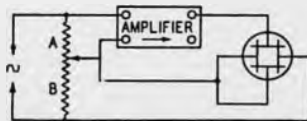

Fig. 7
Tests on the fidelity of audio amplifiers are easily made. Several methods are possible, of which that shown in Figure 7 is the simplest. An audio potential, preferably variable over the whole audio range, is applied to a potentiometer as shown. A portion is applied to the amplifier under test and the rest to the other pair of plates. A calibration line is first obtained by setting the slide so that  $a=b$  with the amplifier removed (see dotted line). The slope of this
2. What type of a.v.c. tube circuit? In addition to the two triode circuits described in the May a.v.c. article\* there is also the screen-grid tube a.v.c. and others shown herewith, Figures 7, 8, 9.
Fig. 7. A limited-range system easily added to existing receivers. If the tube to be controlled is a '24 and the detector is a '27 the voltages will be about as shown and the resistors will be about as follows:  $R_p$ —250,000 ohms,  $R_1$ —1 meg.,  $R_2$  and  $R_3$  each 2 megs. Change these resistors to adjust control action. The lead Y need not be connected as shown. If preferred, cut at  $Z_1$ , transfer  $C_g$  to this gap and connect Y to lower end of tuned coil. If a second r.f. stage is to be controlled use lead  $Z_2$  in same manner. If an i.f. stage is to be controlled use lead  $Z_3$  through a  $\frac{1}{4}$  meg. resistor to the i.f. grid. Many variations are possible.